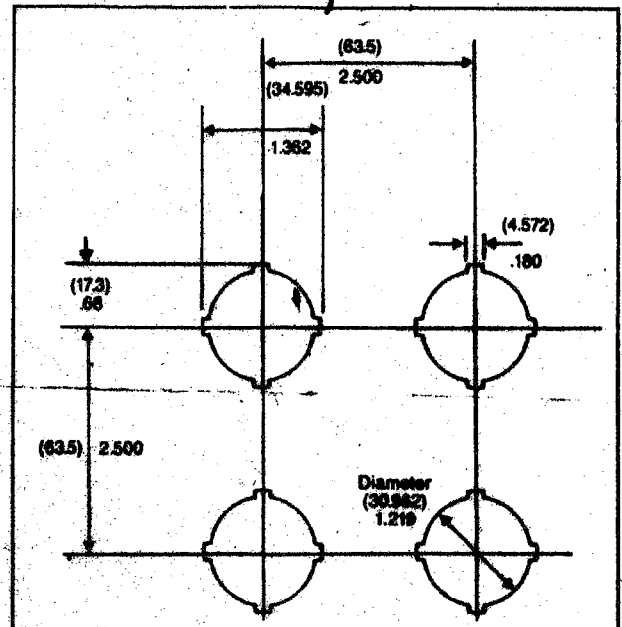

Fig. 2 Mounting Matrix in Inches (mm)
3. Insert the operator into the panel mounting hole (Mtg. Matrix Fig. 2)